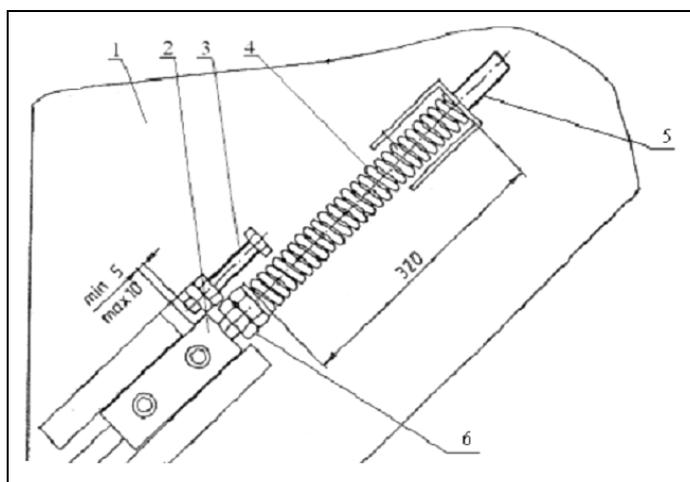

FIG. 50. ADJUSTMENT OF THE BALING CHAINS
With the back frame (1) closed, the distance between the plate of the baling chain tensioning casing (2) and the end of the stop screw (3) should be 5÷10 mm (identical on both sides of the Baler) – Fig. 50. This distance is adjusted using the screw with lock nut. The correct clearance protects the baling chains against damage during material compaction. The baling chains are tensioned by means of the spring (4) using the special screw (5) with lock nut (6). The height of the spring should be adjusted on both sides of the Baler at 320 mm.